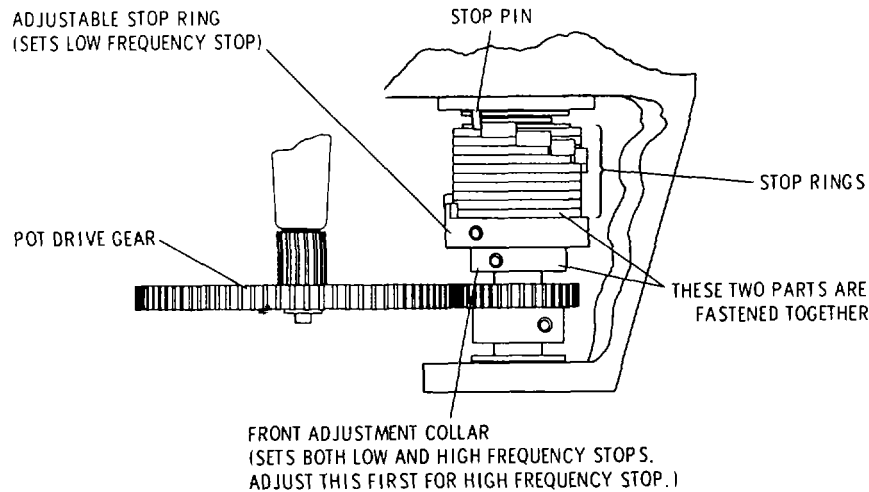

Figure 5-11. Location of RF Oscillator Stop Adjustments.
- 5. Tune FREQUENCY TUNE fully ccw. Compare the position of the stop ring teeth with Figure 5-11.